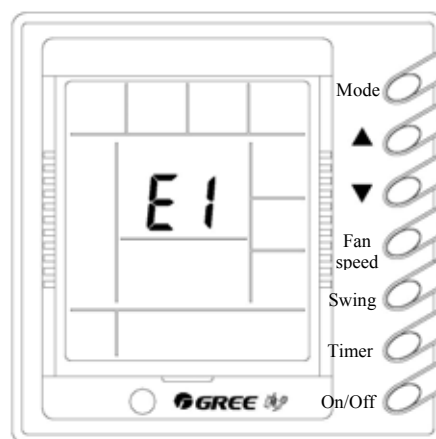

Fig 9
8) Malfunction display (Fig.9)
- ❖ When malfunction occurs in the system, the ambient temperature display area will show the malfunction code. The display as shown in Fig. 9 indicates compressor high-pressure protection.